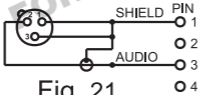

Fig. 21
3. Dynamic Microphone, Fig. 21: